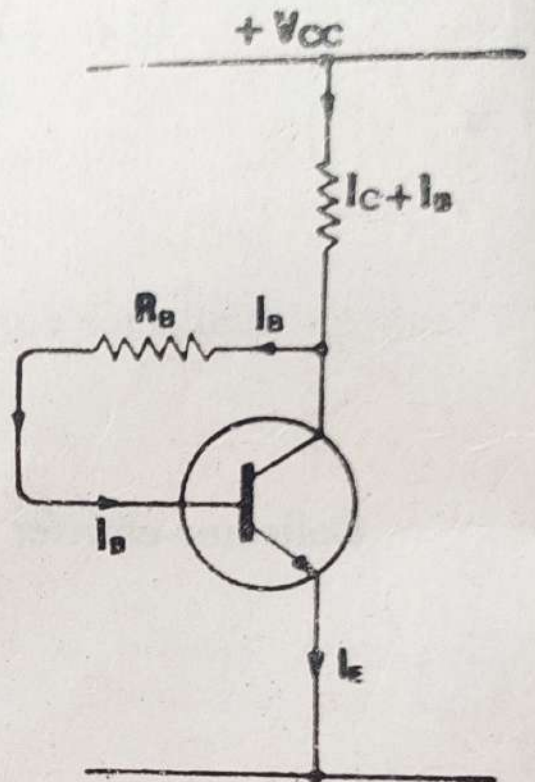

Fig. 11-9
In this method, one end of  $R_B$  is connected to the base and the other end to the collector as shown in Fig. 11-9. Here, the required zero signal base current is determined *not* by  $V_{CC}$  but by the collector-base voltage  $V_{CB}$ . It is clear that  $V_{CB}$  forward biases the base-emitter junction and hence base current  $I_B$  flows through  $R_B$ . This causes the zero signal collector current to flow in the circuit.
*Circuit analysis.* The required value of  $R_B$  needed to give the zero signal current  $I_C$  can be determined as follows. Referring to Fig. 11-9,